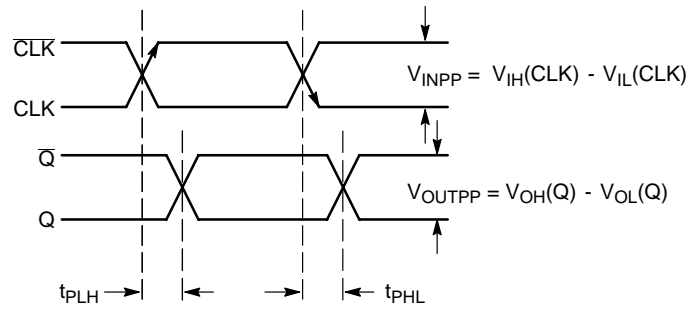

Figure 5. AC Reference Measurement
24. See Figure 5. $t_{SKEW} = |t_{PLH} - t_{PHL}|$ for a nominal 50% Differential Clock Input Waveform.
29. See Figure 5. $t_{SKEW} = |t_{PLH} - t_{PHL}|$ for a nominal 50% Differential Clock Input Waveform.